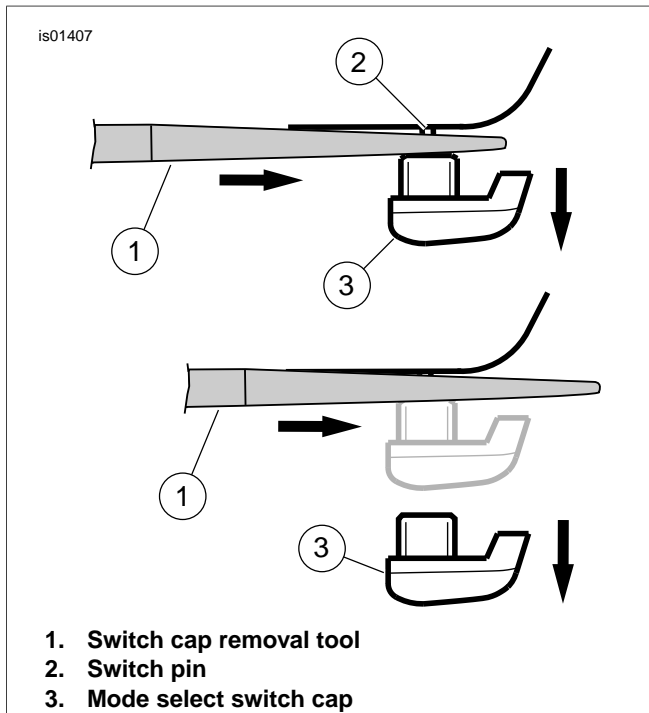

Figure 3. Mode Select Switch Cap
2. See Figure 3. Use long end (Figure 2, Item 5) of tool (1) and push tool straight and under mode switch cap until it is disengaged from switch pin (2) to remove mode select switch cap (3).